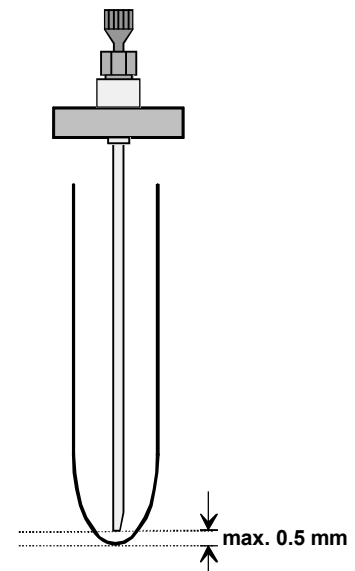

Fig. 18: Adjusting the pipetting needle
- Adjust 6.1835.030 Pipetting needle at the 863 Compact Autosampler to ensure that the lower end of the needle is positioned max. 0.5 mm above the bottom of the sample vessel (see *Fig. 18*). This is essential to guarantee a complete transfer of the sample from the sample vessel into the measuring vessel of the 797 VA Computrace Stand.